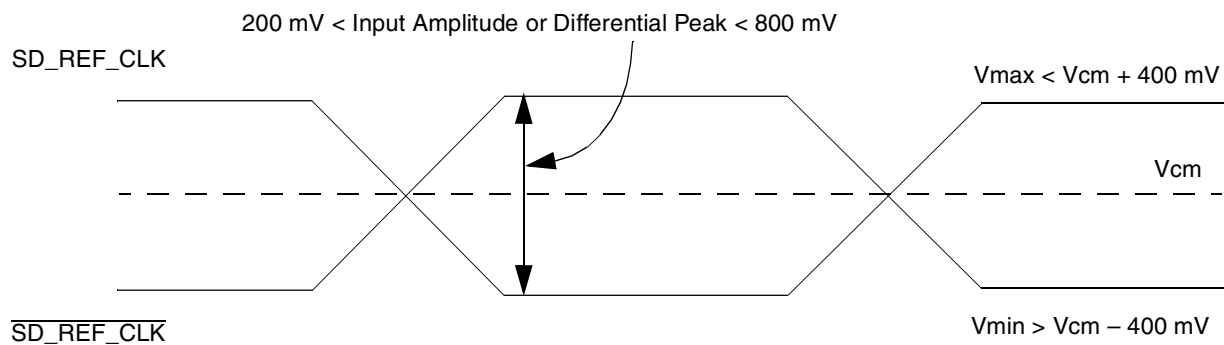

Figure 41. Differential Reference Clock Input DC Requirements (External AC-Coupled)
- For **external AC-coupled** connection, there is no common mode voltage requirement for the clock driver. Since the external AC-coupling capacitor blocks the DC level, the clock driver and the SerDes reference clock receiver operate in different command mode voltages. The SerDes reference clock receiver in this connection scheme has its common mode voltage set to XCOREVSS. Each signal wire of the differential inputs is allowed to swing below and above the common mode voltage (XCOREVSS). Figure 41 shows the SerDes reference clock input requirement for AC-coupled connection scheme.